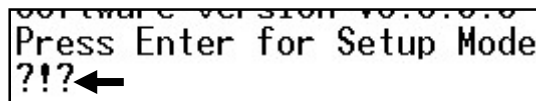

Fig. 4.8
- 8) After initiating the process in step 7, **you must immediately press the Enter key** to enter Setup mode. If you fail to do so in time you will see the following (Fig 4.8):